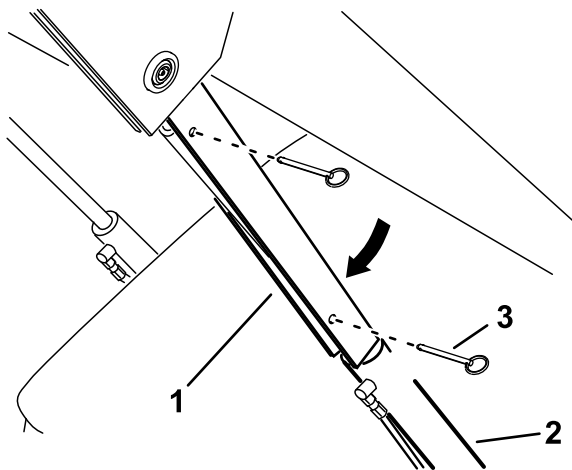

Figure 34
5. Slide the cylinder lock over the lift-cylinder rod (Figure 34).